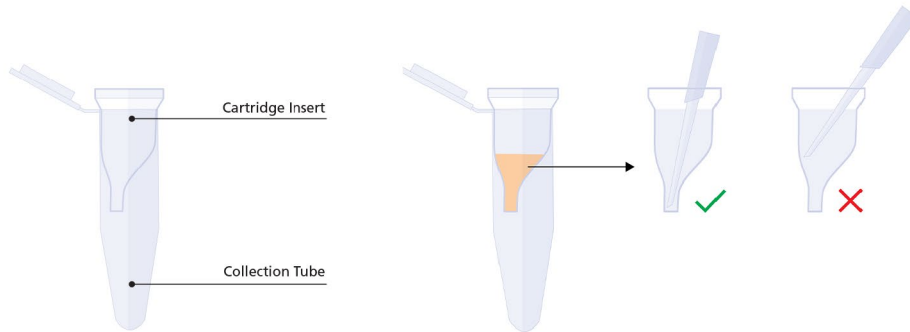

Figure 1. Proper Pipetting Technique for CellPore™ Delivery Cartridge
- Transfer 50 μ L of the cell suspension into a new CellPore™ Delivery Cartridge 300. Always insert the pipette tip to the bottom of the Cartridge Insert when dispensing the sample (Figure 1) and avoid creating bubbles.
- For delivering cargo that requires a cell culture step prior to analysis, it is recommended to pre-load the Collection Tube of the CellPore™ Delivery Cartridge (Figure 1) as follows: